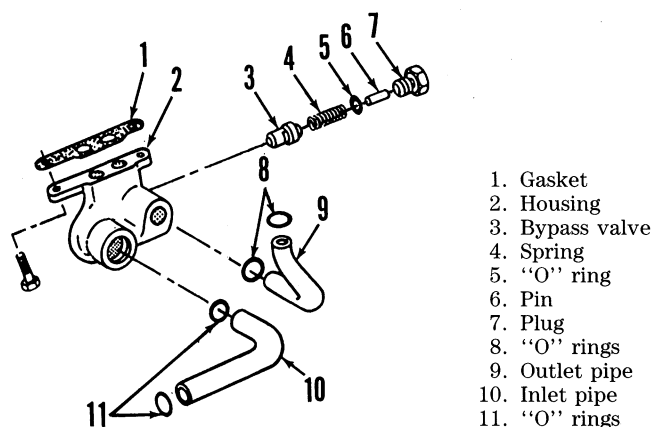

Fig. 61—Exploded view of oil cooler bypass valve. The oil pan must be removed for access to the valve.
50. The oil pressure regulating valve (13—Fig. 60) and the oil filter bypass valve (7) are located in the oil filter housing. The oil cooler bypass valve (3—Fig. 61) is mounted on bottom of cylinder block.